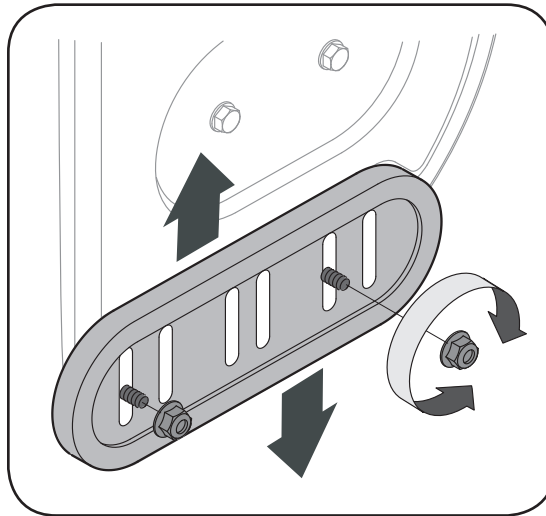

Figure 5-4 - Reversible Plastic Skid Shoe
1. Adjust skid shoes by loosening the four lock nuts and carriage bolts and moving skid shoes to desired position. See Figure 5-4 or 5-5.